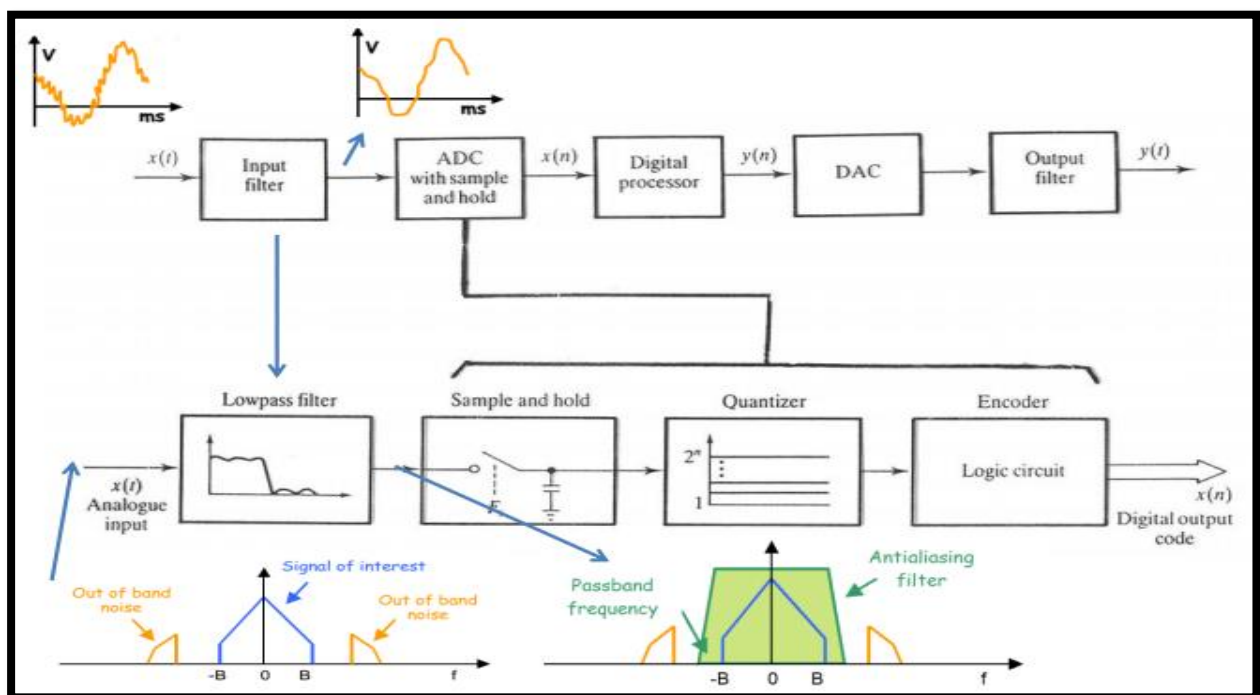

Figure 1: Block Diagram of a DSP System
- 2- If the voltage V_{IN} shown below was applied to ADC circuit (figure 1). Determine the digital outputs ($D_2 D_1 D_0$) when $V_{REF}=10V$. Show how to change V_{REF} to get high resolution.
The basic concept of DSP is illustrated by the simplified block diagram in Figure 1, which consists of an analog filter, an analog-to-digital conversion (ADC) unit, a digital signal (DS) processor, a digital-to-analog conversion (DAC) unit, and a reconstruction filter. As shown in the diagram, the analog input signal, which is continuous in time and amplitude, is generally encountered in the world around us. Examples of such analog signals include current, voltage, temperature, pressure, and light intensity.